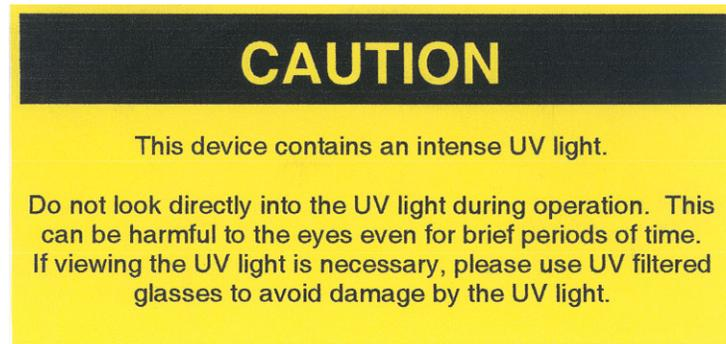

Figure 1
- Enclose UV radiation source operations when possible to protect workers from an exposure. The enclosure shall be interlocked or require a tool to access the UV radiation source. Label the enclosure with a UV radiation warning label (Figure 1). The warning label can be obtained from the ESH&Q Section Industrial Hygiene Group.